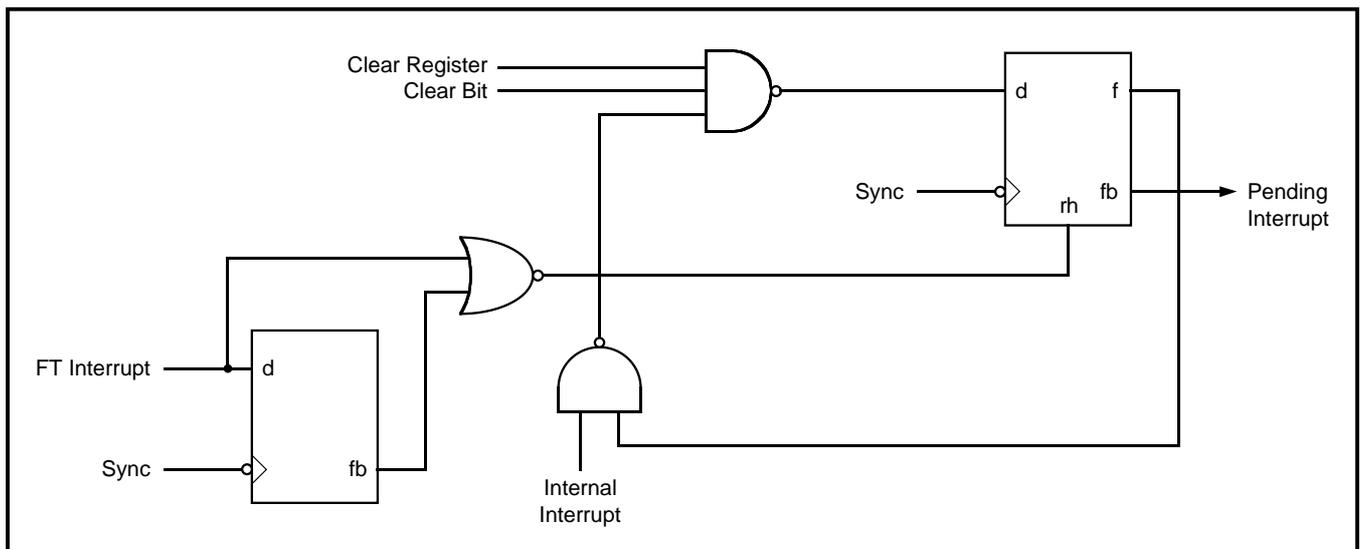
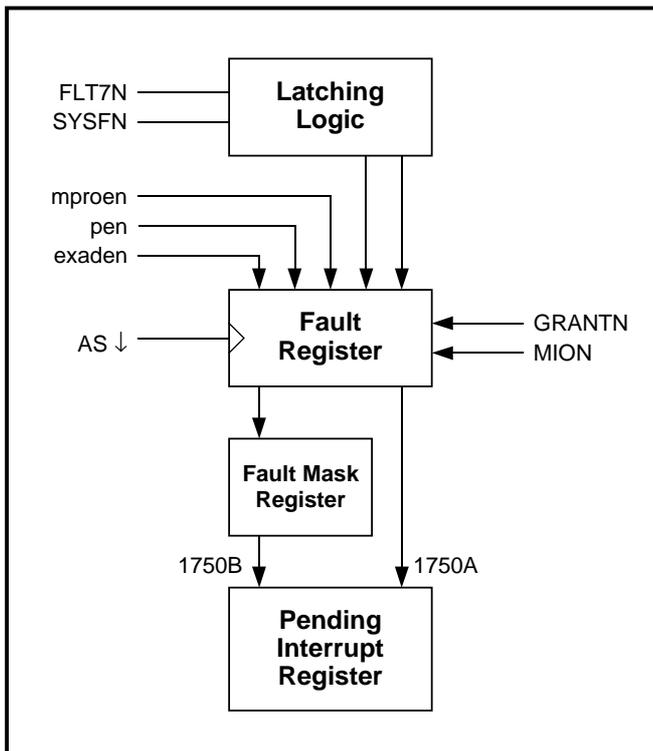

Figure 2: Interrupt 1 Latching Circuitry
Figure 3: Machine Error Interrupt Capture
As part of the service routine, microcode clears the bit in the PI register associated with the current interrupt. There are 7 internal interrupts. Interrupt 1, the machine error interrupt signal, differs from the others as it cannot be disabled. It becomes active whenever any of the bits in the Fault Register (FT) are set. There is anti-repeat logic between the FT output and the PI as FT is not cleared when the interrupt is serviced (and re-latching has to be prevented). The FT must be cleared by the user, in the interrupt service routine (by reading and clearing FT) before another machine error can be detected. See Figure 2.
Figure 3 shows the latching logic for machine errors. The Fault Register is loaded on the falling edge of the address strobe, AS. This provides synchronicity with the peripherals in the system as they may have control at the time of interrupt generation. The output from the fault register is asynchronously fed into the pending interrupt register (via the fault mask if in 1750B mode). Bit 1 of the PI is set asynchronously as can be seen in Figure 2. This is to ensure that faults are serviced directly after the erroneous instruction. (If the OAS register remains unchanged after initialisation, then abort is enabled. MPROEN and EXADEN will cause the erroneous instruction to be aborted before entering the ME service routine. PEN will cause the next instruction to be aborted if it is an external cycle. The ME is then serviced).